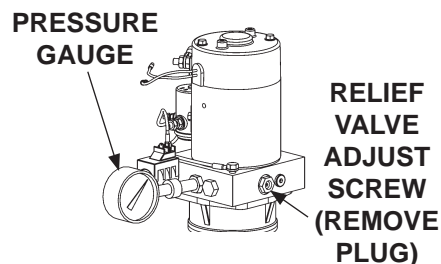

**FIG. 70-1**
1. Use voltmeter to verify power is being supplied to solenoid terminal "B". Recharge the battery if voltmeter indicates less than 12.6 volts (**FIG. 70-1**).